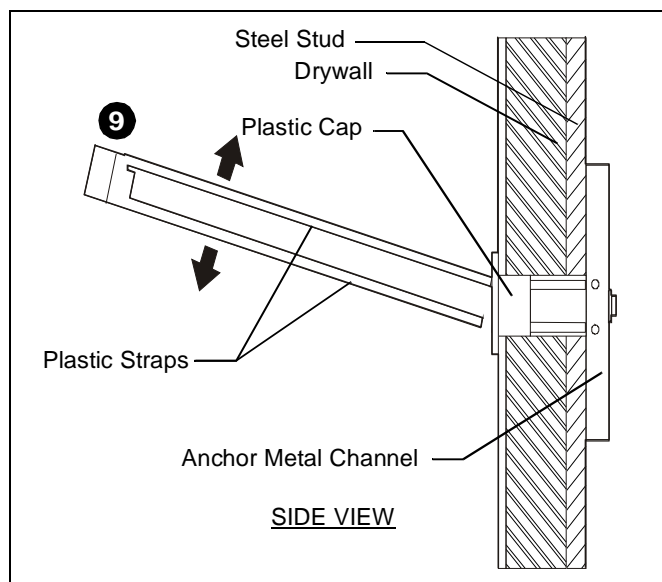

Figure 32
9. Snap off plastic straps on anchor at wall by pushing side to side, snapping off straps level with flange of plastic cap. (See Figure 32)